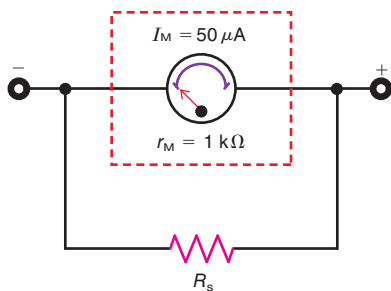

Figure 12-21
- 12.2 Calculate the value of the shunt resistance, R_S , needed to extend the range of the meter movement in Fig. 12-21 to (a) $100 \mu\text{A}$; (b) 1 mA; (c) 5 mA; (d) 10 mA; (e) 50 mA; (f) 100 mA.